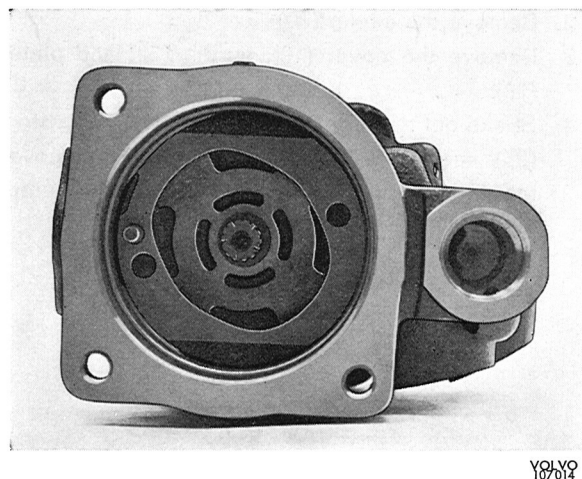

Fig. 6-109. Intermediate piece installed
7. Install the intermediate piece (Fig. 6-109). The small hole on the pin and the other two opposite the plate holes.